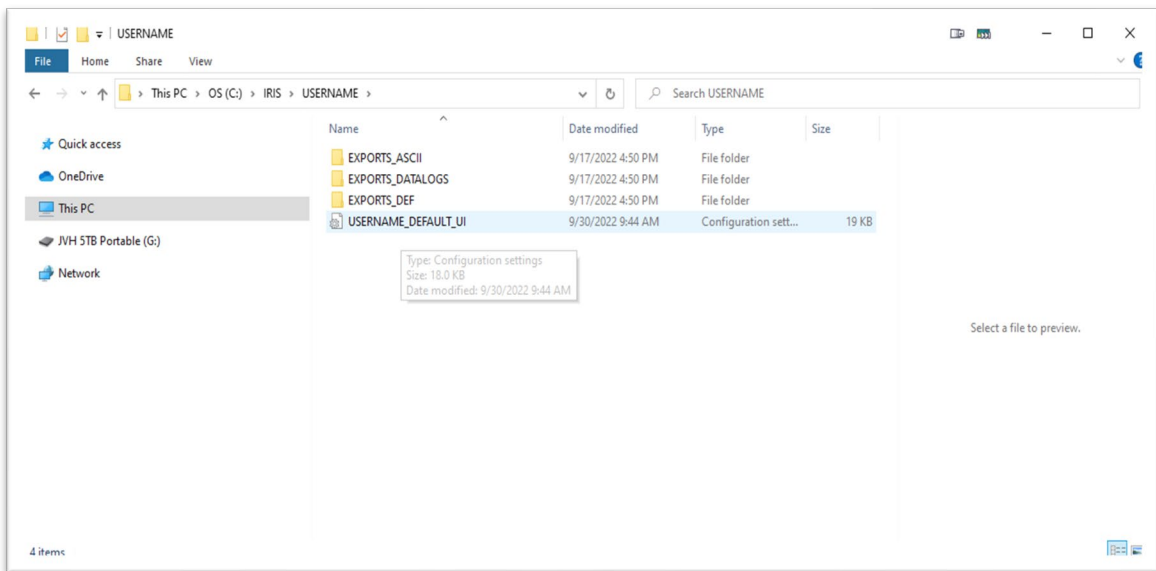

Figure 2. iRIS subfolder creation
4. The installer will create the subfolders. *See Figure 2:*